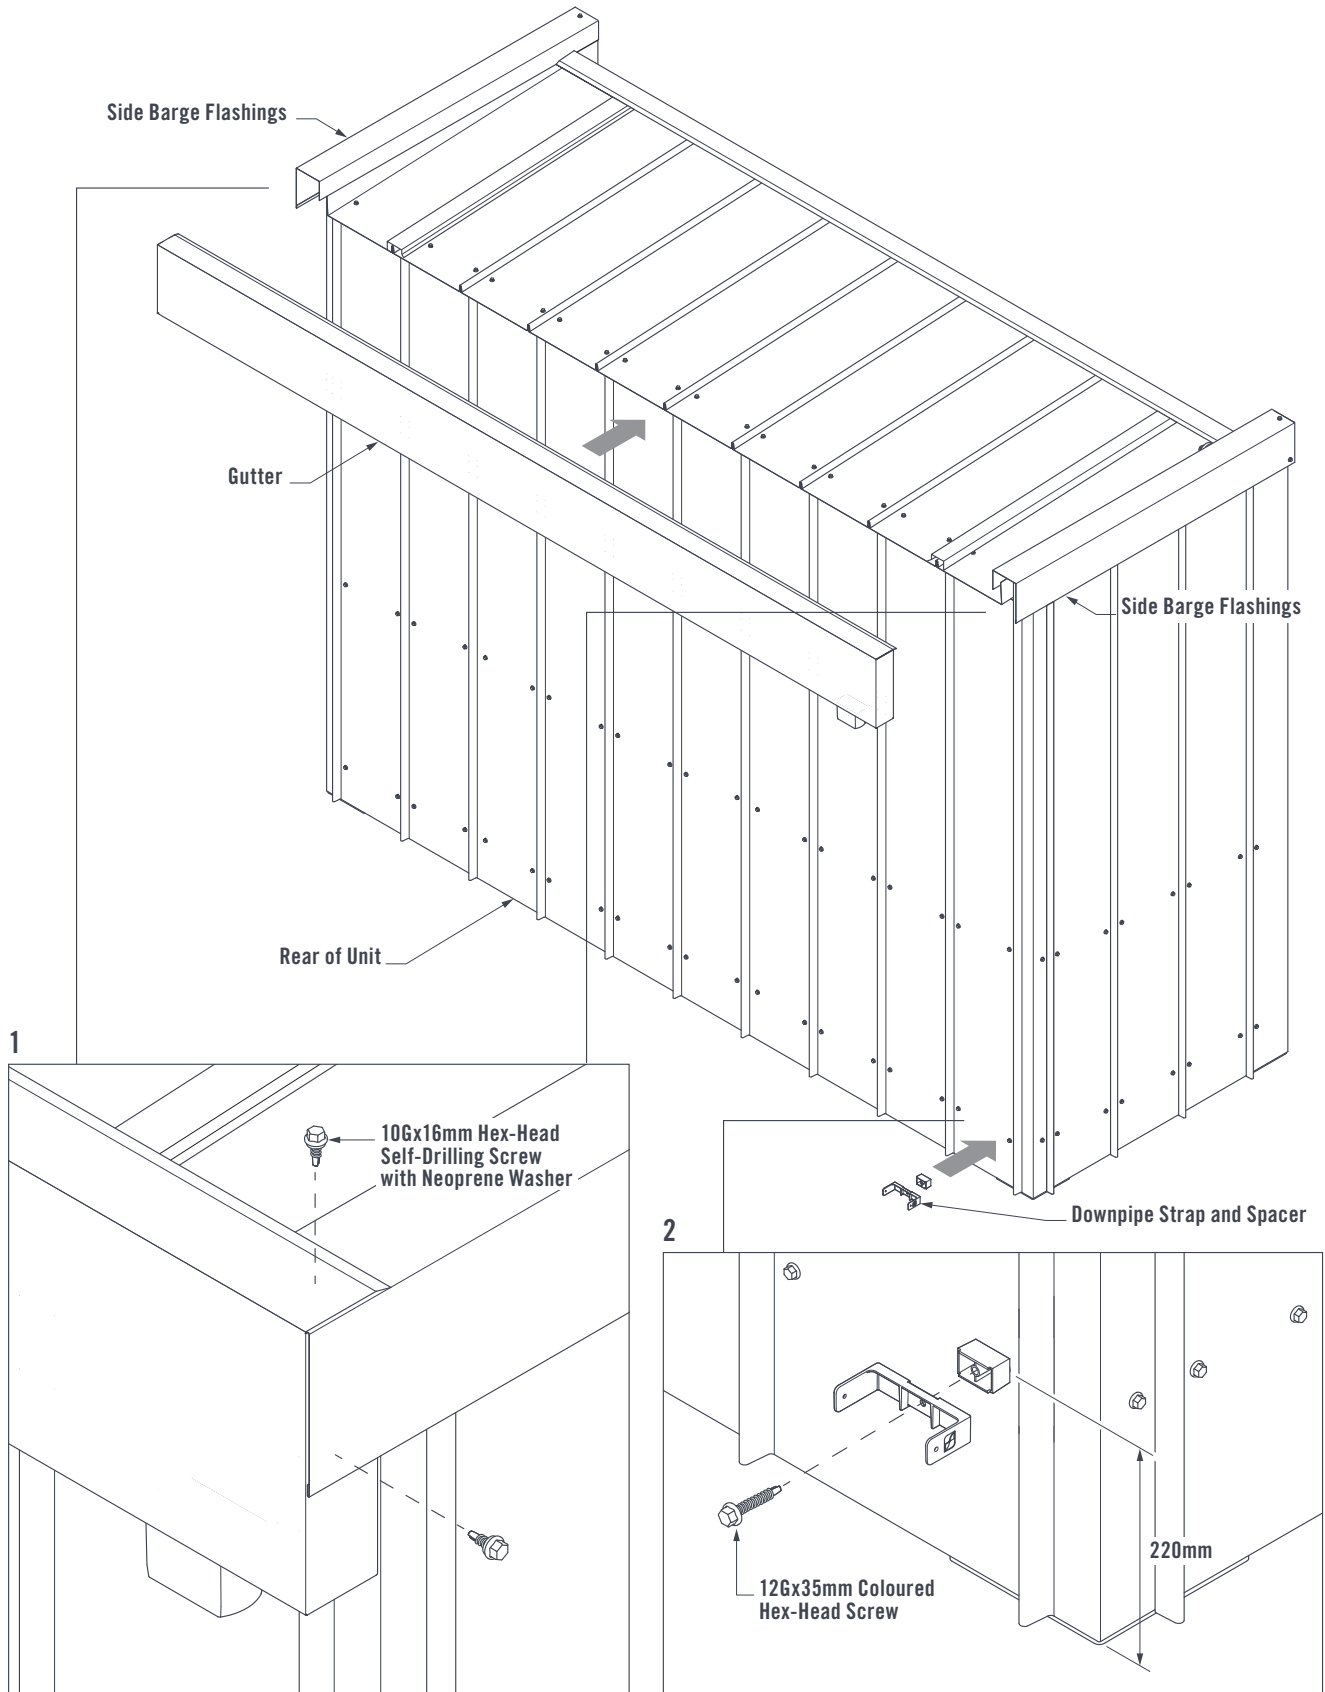

FIGURE 8.2
2) Fasten the Downpipe Strap and Spacer through the Sheet and into the Frame 220mm from the bottom edge of the Sheet with a 12Gx35mm Coloured Hex-Head Self-Drilling Screw (Figure 8.2).